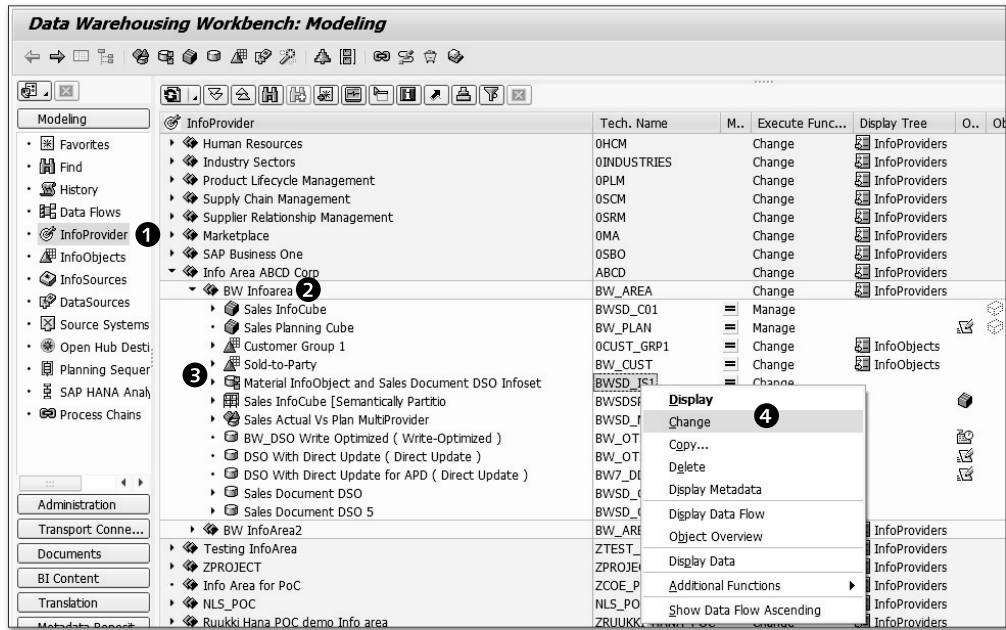
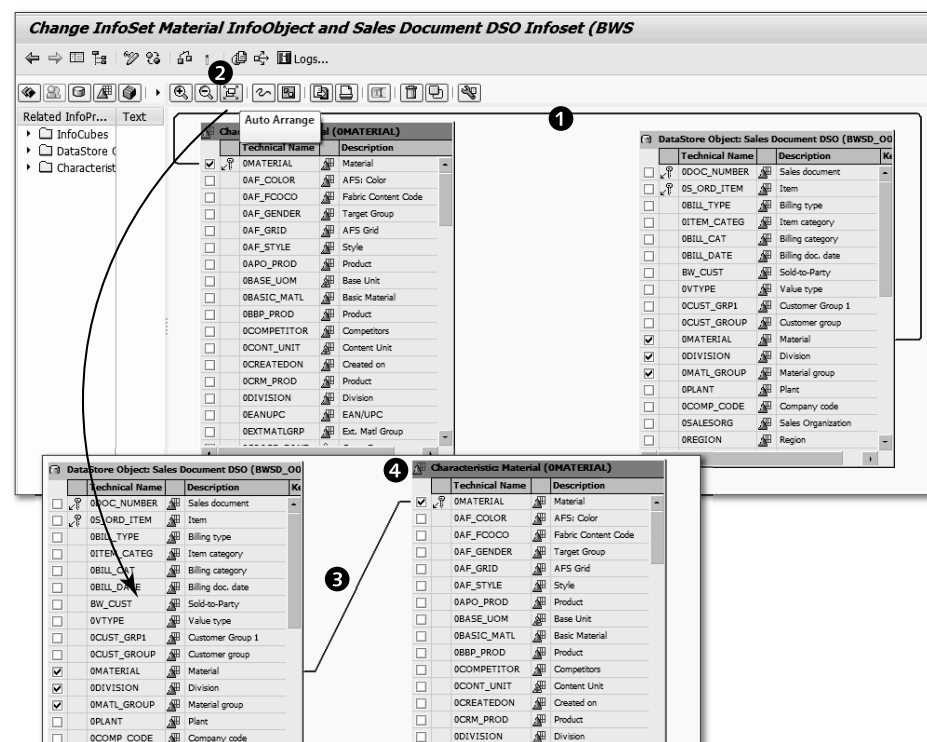

Figure 6.31 Editing the InfoSet
Figure 6.32 InfoSet Editing: Auto Arrange Facility
There are a few settings available for creating and editing an InfoSet. These settings are typical for the InfoSet only, so they are explained in detail in this section. Start the InfoSet definition in change mode. In the DATABASE WAREHOUSING WORKBENCH screen (Transaction RSA1), under MODELING in the navigation section, select INFOPROVIDER, as shown in ❶ of Figure 6.31. Select BW INFOAREA BW_AREA ❷. Using the context menu of InfoSet BWSD_IS1 ❸, select the CHANGE option ❹. The CHANGE INFOSET screen appears (Figure 6.32).
As you can see in ❶ of Figure 6.32, the join between two source objects isn't properly visible. Click on the AUTO ARRANGE icon ❷. The resulting screen is shown in the lower part of Figure 6.32, where you can view the join properly ❸